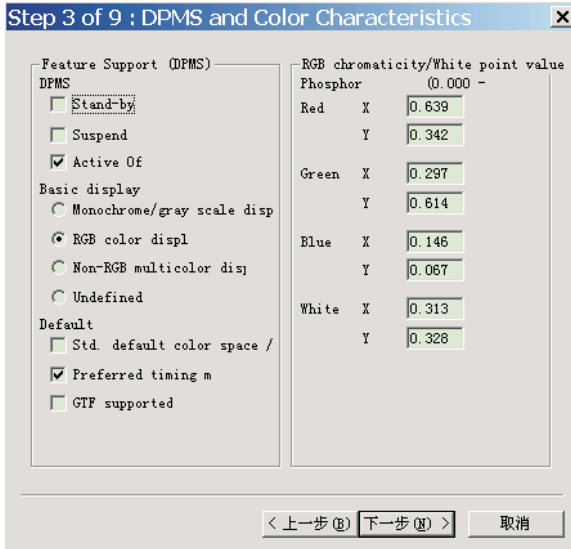

Fig. 33
2. Click Next , bring up Fig. 33.